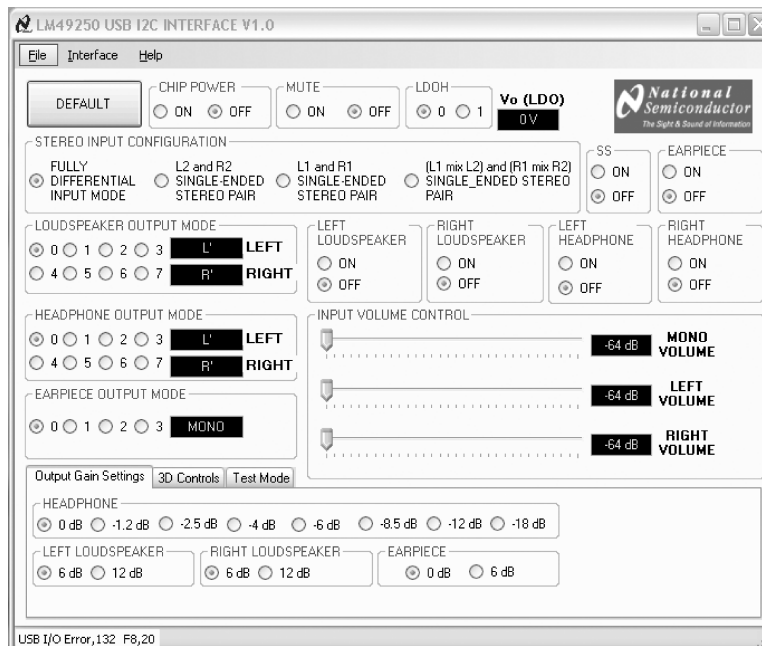

Figure 2. LM49250 I²C Software Interface
11. In the LM49250 I²C interface software (see Figure 2) select: